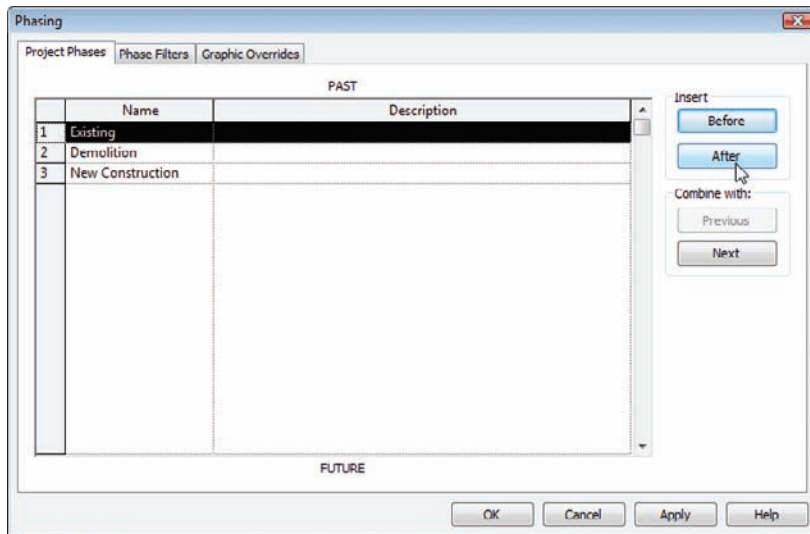

FIGURE 21.2 Adding the Demolition phase
5. Rename the phase that is now in the middle to Demolition, as shown in Figure 21.2.